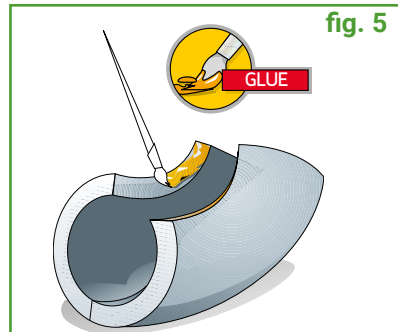

fig. 5
- 5) Apply glue to the edges and let it dry (fig 5)